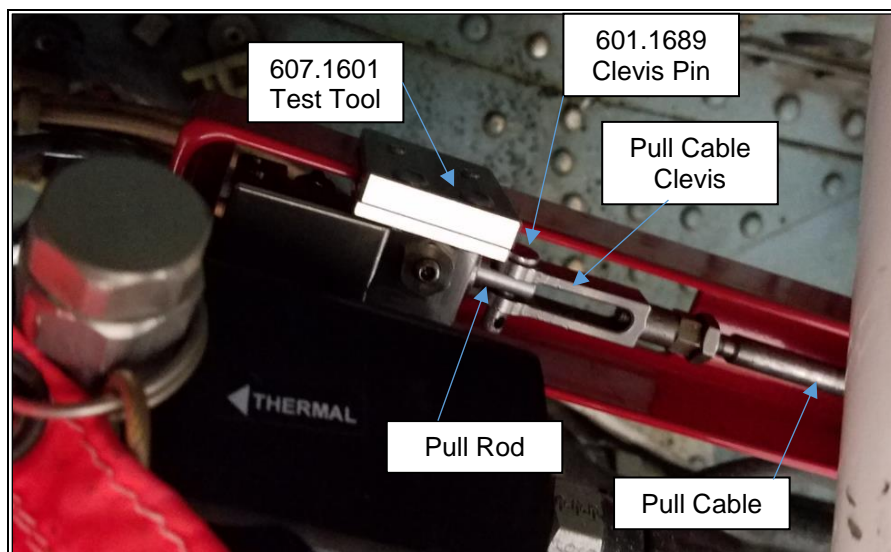

Figure 3: Pull Cable Installation
9. Connect the pull rod and pull cable by installing the clevis pin (Figure 3).